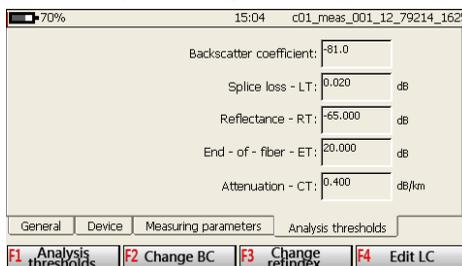

Figure 7.31
7.6.14.5 “Analysis parameters” tab (Figure 7.31)